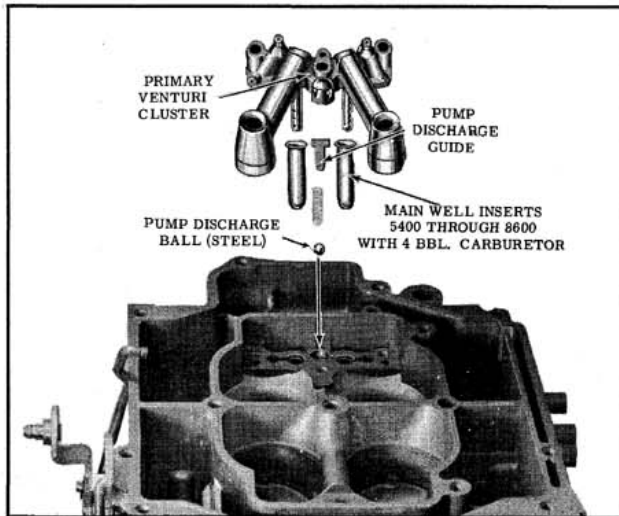

Fig. 4-52 Pump Discharge and Cluster
14. Remove the small T-shaped pump discharge spring guide with needle-nose pliers, then remove the small spring and steel ball. (Fig. 4-52)